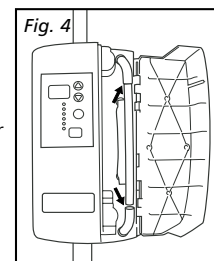

Fig. 4
- Take the 6 inch bypass tube with straight barb fittings (Bypass Tube B) and wipe the ends with an approved disinfectant wipe. Insert firmly into outer upper and lower cartridge ports (air circuit). (Fig. 4)